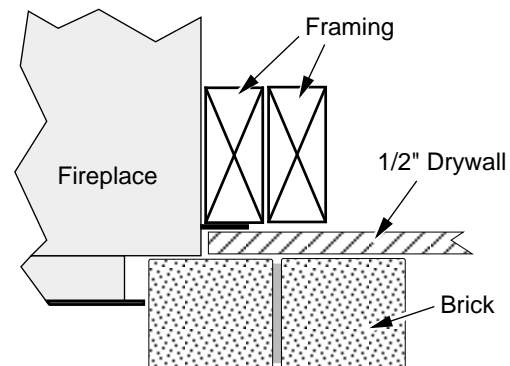

Figure 28
- Facing may be installed so it inserts behind the faceplate (see Figure 28). . NOTE: the faceplate protrudes 1" from the front of the fireplace, has a 1/8" overlap on the sides, and 1/4" overlap on top.
- To achieve a facing that is flush with the drywall to the side of the fireplace, recess the framing directly next to the fireplace (see Figure 28).